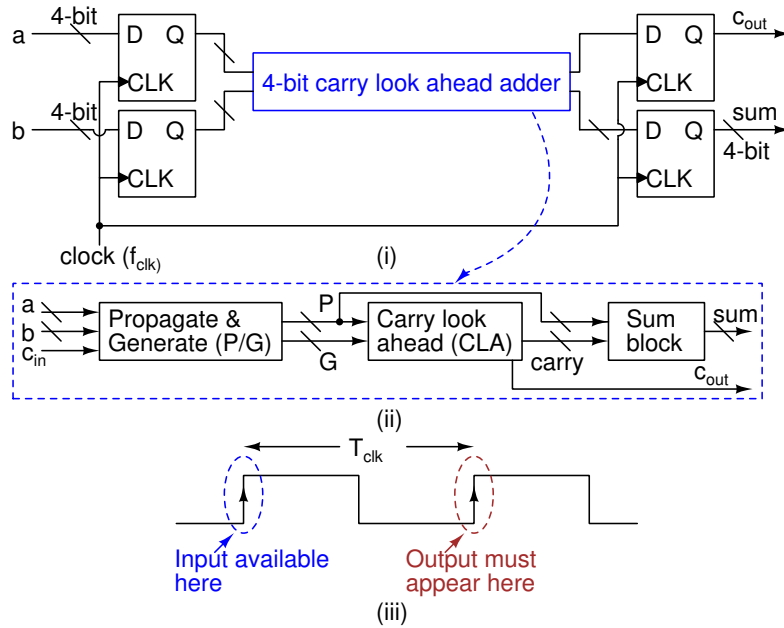

Figure 1
You are asked to design a 4-bit carry look ahead (CLA) adder as shown in Fig. 1(i). Different modules of the CLA-adder are shown in Fig. 1(ii). Each output sum bit needs to drive an inverter of size $W_p/W_n = 20\lambda/10\lambda$, where $\lambda = 0.09\mu m$. As shown in Fig. 1(iii), consider that input bits are available before the rising edge of the clock and the output should be computed and present at the next rising edge of the clock. You can choose any logic style (static, dynamic, mix) to implement the circuit.
7. Integrate different block designed in previous steps and write the netlist for the full circuit shown in figure 1(i). Use NGSPICE and verify the functionality of the circuit. Attach the properly annotated waveforms. Report the worst case delay of your adder and maximum clock speed for which your design operates correctly.